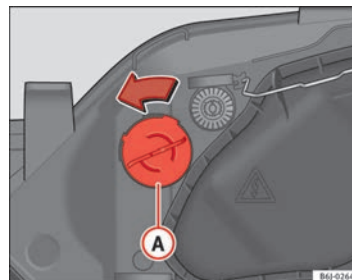

Fig. 156 Turn signal
- Turn bulb holder ⇒ Fig. 156 A to the left and pull.